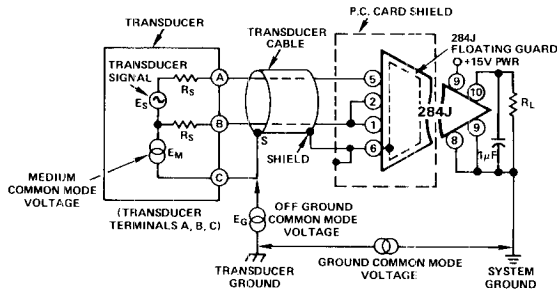

Figure 11. Transducer- Amplifier Interconnection
- Drive the transducer cable shield, S, with the common mode signal source, E_G , to reduce the effective cable capacitance as shown in Figure 11 below. This is accomplished by connecting the shield point S, as close as possible to the transducer signal low point B. This may not always be possible. In some cases the shield may be separated from signal low by a portion of the medium being measured (e.g. pressure transducer). This will cause a common mode signal, E_M , to be generated by the medium between the shield and the signal low. The 78dB CMR capability of model 284J between the input terminals (HI IN and LO IN) and GUARD, will work to suppress the common mode signal, E_M .